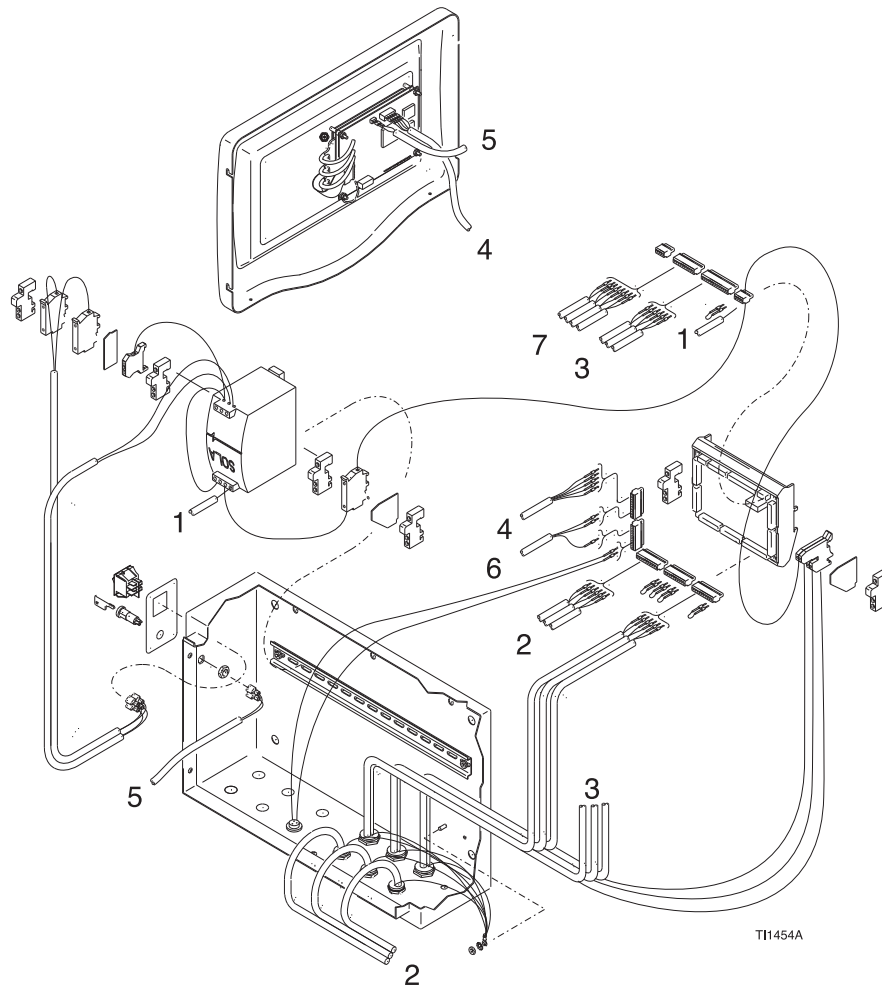

FIG. 12
The ProDispense system can be connected to a PC via Modbus RTU network protocol (6) and/or audible alarms (7) as shown in FIG. 12. Refer to field wiring chart, page 60. Follow instructions on page 26 to setup modbus station number and recipe selection. Contact your Graco distributor for Modbus address mapping list.